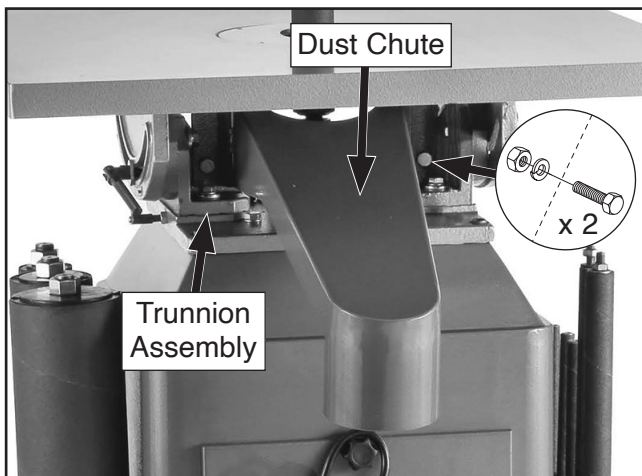

Figure 13. Dust chute installed.
1. Secure dust chute to trunnion assembly with pre-installed hex bolts, lock washers, and hex nuts (see **Figure 13**).